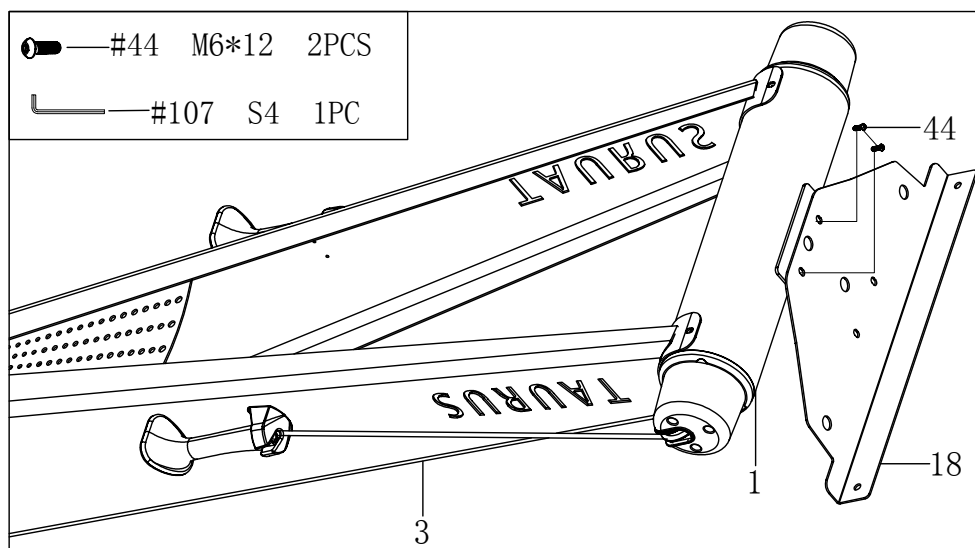

Fig. 16
1. Fix the strengthening plate (18) to the round straight pipe (1) with two bolts (44) (Fig. 16).